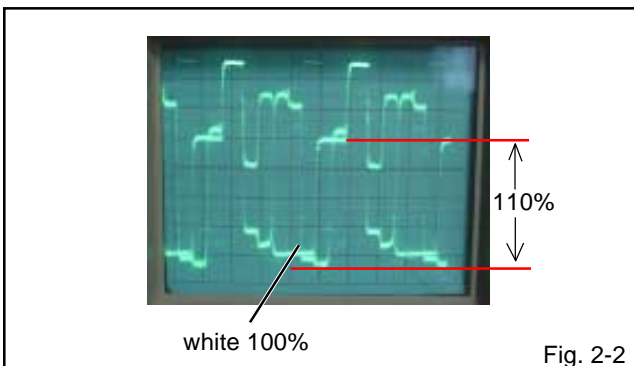

Fig. 2-2
6. Press the VOL. UP/DOWN button on the remote control until the red color level is adjusted to $110 \pm 10\%$ of the white level. **(Refer to Fig. 2-2)**
9. Press the VOL. UP/DOWN button on the remote control until the red color level is adjusted to $100 \pm 10\%$ of the white level. **(Refer to Fig. 2-2)**